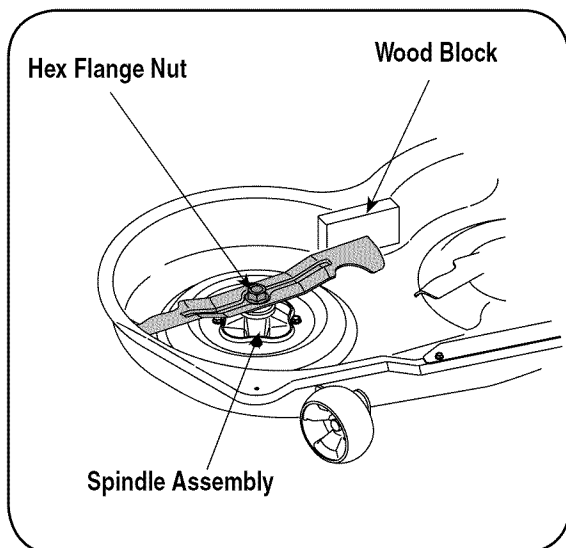

Figure 23
- A block of wood may be placed between the deck housing and the cutting edge of the blade to help in breaking loose the hex nut securing the blade. See Figure 23.